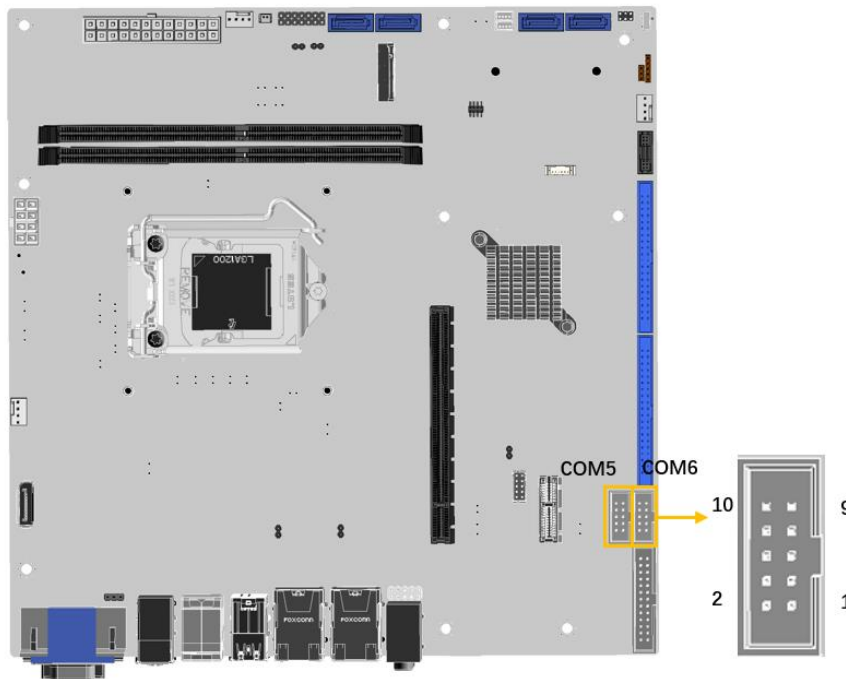

Figure 3-19: RS-232 Connector Location
- CN Location:** See Figure 3-19